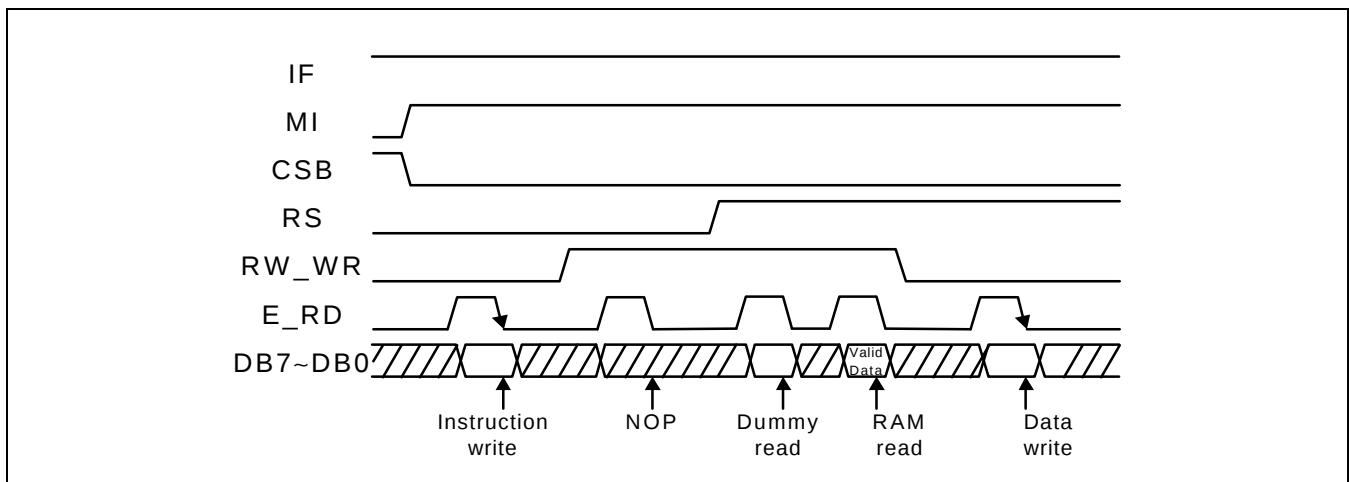
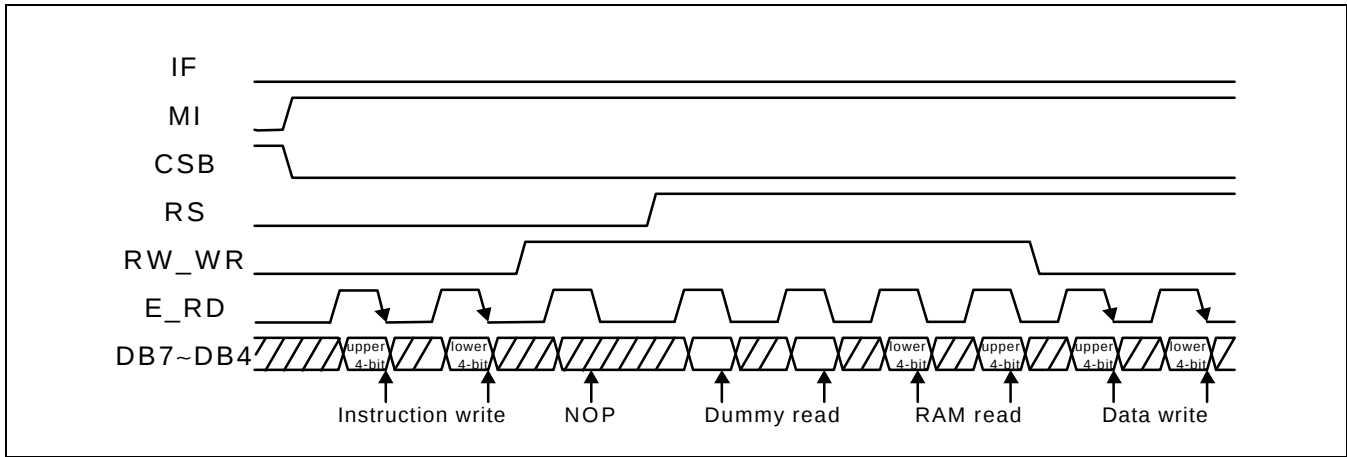

Figure 3. Timing Diagram of 8-bit Parallel Bus Mode Data Transfer (68 Series MPU Mode)
Figure 5. Timing Diagram of 4-bit Parallel Bus Mode Data Transfer (68 Series MPU Mode)
During reading operation, 8-bit register, output data register(OR) is used. The output data register(OR) is used as temporary data storage place for being read from DDRAM/CGRAM/ICONRAM and one of these RAMs is selected by RAM address setting instruction. After RAM address setting, first reading is a dummy cycle in 8-bit bus mode (Figure 3, 4). The valid data comes from second reading. In 4-bit bus mode, after RAM address setting, first and second reading are dummy cycles (Figure 5, 6). The valid data comes from third reading. The dummy read make the address counter(AC) increased by 1. So it is recommended to set address again before writing. The instruction read cycle is not supported and it is regarded as a no operation cycle.